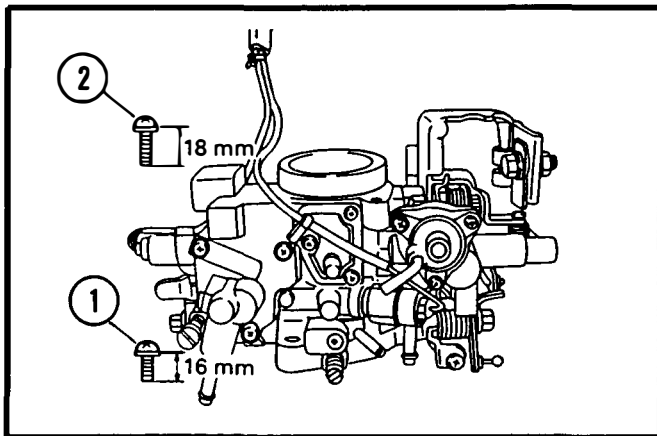

Figure 10.
- One mounting screw is shorter than the other two. Failure to return screw to their proper location may cause damage to the carburetor body. See Figure 10.